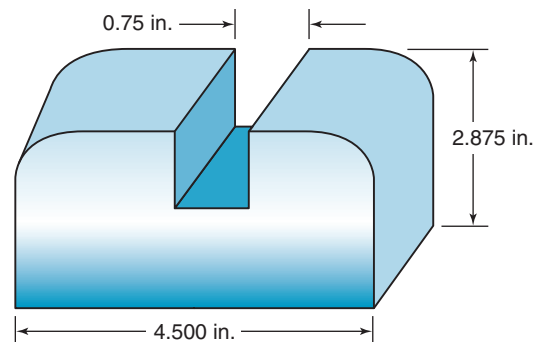

Figure 2-3 Convert these dimensions to metric units.
- On a separate sheet of paper or on keys, using Fig. 2-3, convert the imperial dimensions to millimeters.